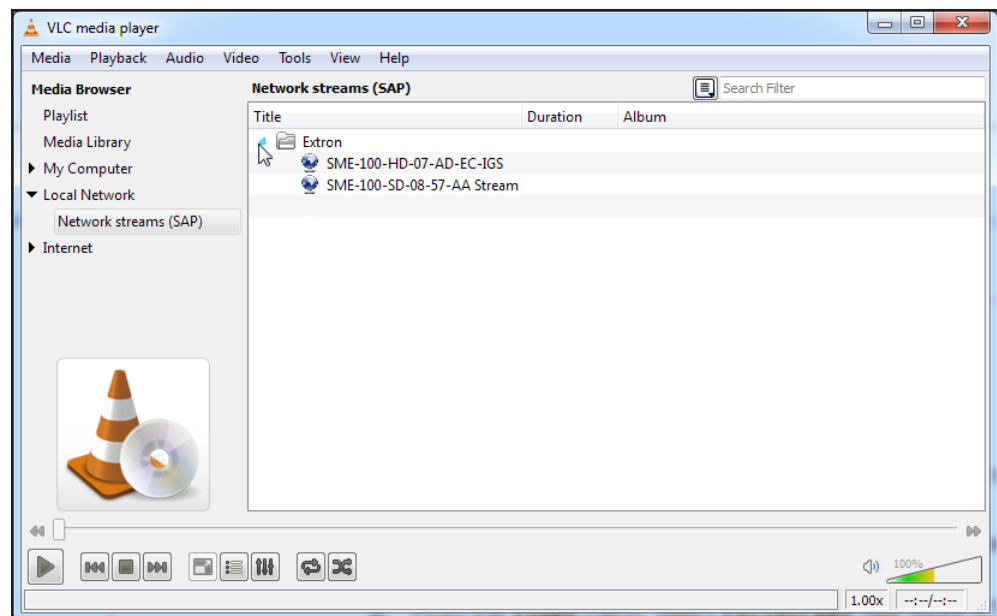

Figure 109. VLC - Select a Stream
- VLC will now populate the playlist with all streams that have SAP information. If a folder is shown, open it to view the SAP streams inside (see figure 109).